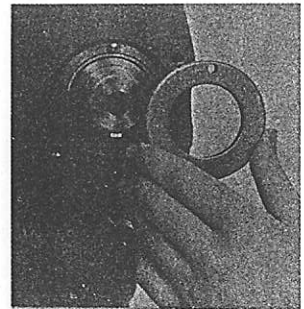

Fig. 73—The four cylinder engine camshaft is retained by thrust washer which can be removed only after removing timing gear housing.
78. To remove the camshaft, first remove timing gears, distributor drive (governor) and timing gear housing as outlined in paragraphs 69 through 76. Secure cam followers (tappets) in the uppermost position and lift off thrust washer (Fig. 73), then withdraw camshaft from block bores.
Thrust washer (Fig. 73) retains camshaft and controls end play. Thrust washer thickness is 0.216-0.218; check thrust washer for correct thickness and for wear or scoring. Recommended camshaft end play is 0.004-0.016 and diametral clearance of camshaft journals in their bores is 0.0025-0.0053. Camshaft journal diameters are as follows: